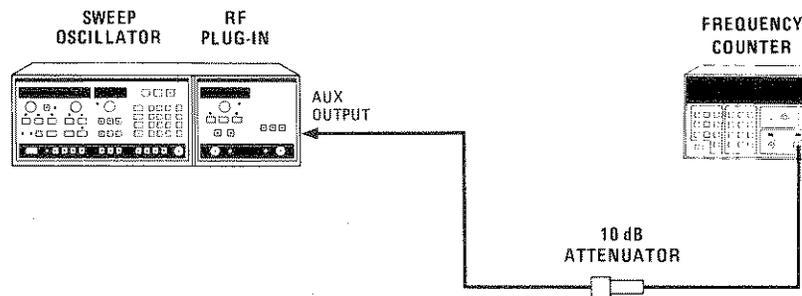

Figure 5-9. Frequency Accuracy Test Setup
1. Connect the equipment as shown in Figure 5-9 with the Frequency Counter connected to the 83595A rear-panel AUX OUTPUT connector through the 10 dB Attenuator. Allow the equipment to warm up for one hour.